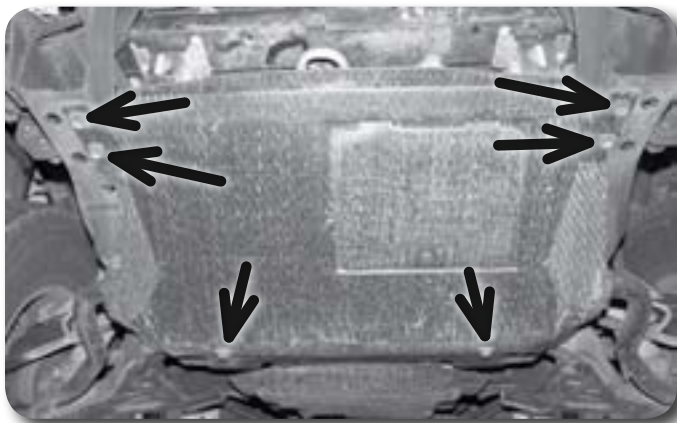

Figure 7
9. Remove the six bolts and the front skid plate from the vehicle **Figure 7**. Save bolts.